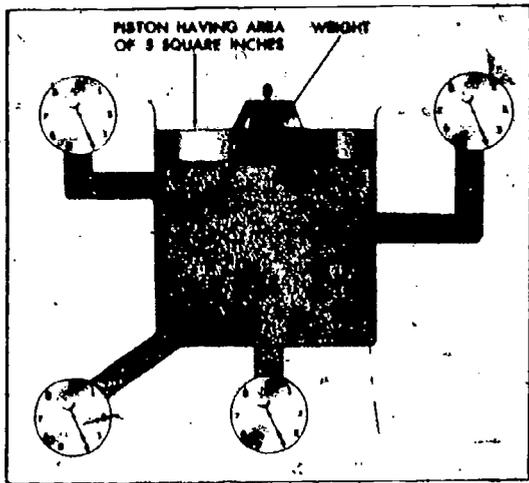
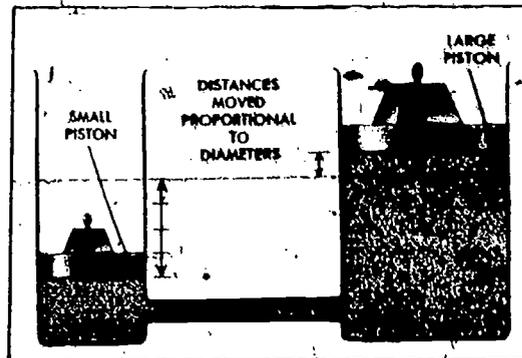

Fig 4-1. Distribution of hydraulic pressure.
Fig 4-2. Piston movement and volume displacement.
a. Principles. In a hydraulic system, pressure applied at one place will be transmitted by the liquid throughout the system. The hydraulic systems used in engineer equipment work on the principle that a liquid cannot be compressed. Another hydraulic principle is that a force exerted at any point on a confined liquid will be distributed equally in all directions throughout the system (fig 4-1). Hydraulic pressure and piston area provide mechanical advantage. For example, the 5 sq in. piston in figure 4-1 with a weight of 20 lb gives a pressure of 4 pounds per square inch (psi). This example can be reversed and you can visualize that 4 psi is developing a total force of 20 lb (5 sq in. x 4 psi) on the large piston. Travel distance of the piston is related to the volume displaced. Volume and travel distance are illustrated in figure 4-2. Note that the small piston must move 4 inches to displace the volume of liquid required to move the large piston 1-inch.